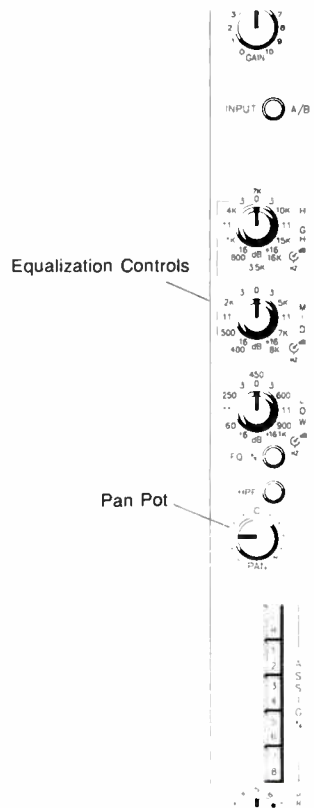

FIGURE 4.7 Portion of a single channel of an audio console. (Courtesy of Wheatstone Corporation)
Equalizers can also be used for special effects, such as making a voice sound like it is coming over a telephone line. Usually the equalizers are knobs or switches that increase or attenuate a certain range of frequencies. They are placed somewhere above each input volume control (see Figure 4.7). Equalizers are discussed in further detail in chapter 10.
If a board is stereo, each input may have a **pan pot** or **pan knob**. By turning (panning) this knob to the left or right you can control how much of the sound from that input goes to the right channel and how much goes to the left channel (review Figure 4.7).
- In Figure 4.7, according to the pan pot indicator, the sound signal going to the left channel would be _____ the signal going to the right channel.